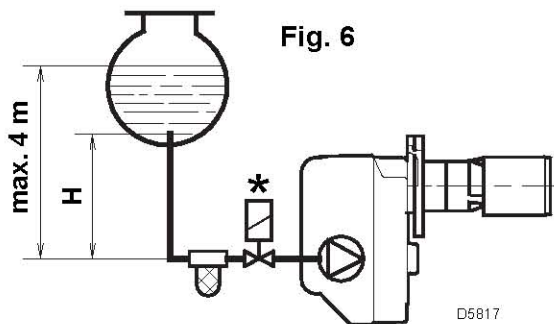
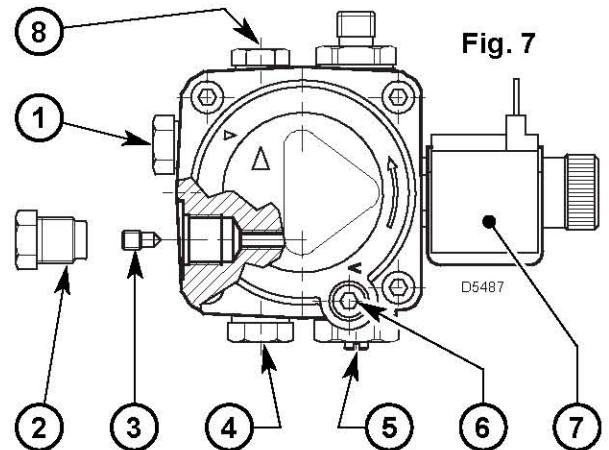

Fig. 6
Fig. 7
- The pump is designed to allow working with two pipes. In order to obtain one pipe working it is necessary to unscrew the return plug (2), remove the by-pass screw (3) and then screw again the plug (2). (See fig. 7).
On the system in fig. 6 it is sufficient to loosen the suction gauge connection (6, fig. 7) and wait until oil flows out.
12 bar: the pump leaves the factory set at this value. To change it act on pump pressure adjust screw (5, fig. 7, page 4).